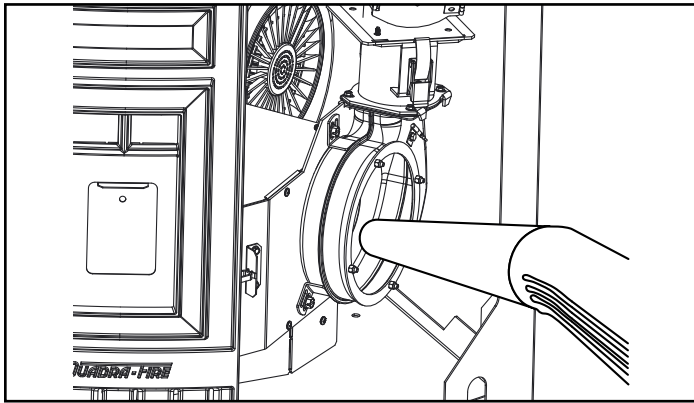

Figure 23.1
- d. Vacuum out exhaust path and housing (**Figure 23.1**).